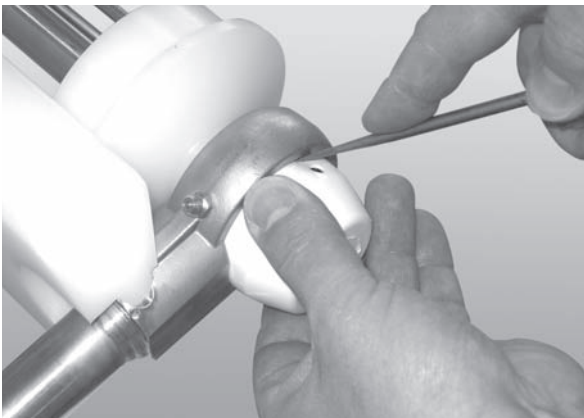

Figure 77
3. Remove the bearing cover (**Figure 77, item 1**).